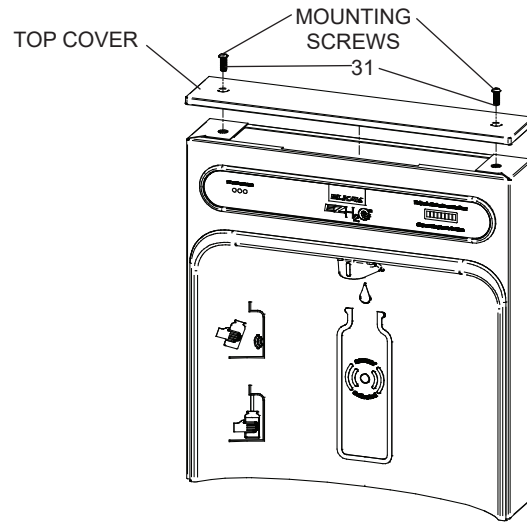
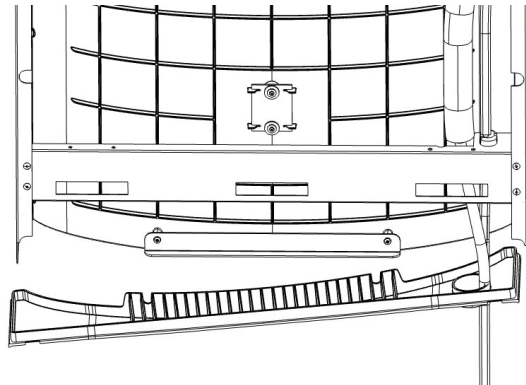

Fig. 9
Fig. 10
- 1) **Remove two (2) mounting screws** with 5/32" Allen wrench holding top cover to Bottle Filler (See Fig. 9). Remove top cover. Note do not discard mounting screws, they will be needed to reinstall top cover.
- 7) **Feed power cord & 3/8" water line** through hole in tower/basin gasket (See Fig 10).
- 8) **With the power cord, wire(s), and waterline** through hole on top of water cooler place Bottle Filler on the three (3) angled tabs protruding from the wall mounting plate installed on wall. Make sure round boss in gasket fits in hole of basin.
- 9) **Once Bottle Filler is installed** on wall plate tabs, make sure the water line, wire(s) and power cord are installed properly. Inspect for leaks and fix all leaks before continuing. Push the top of Bottle Filler toward wall and line up top cover two (2) holes.
- 10) **Reinstall Top Cover** on Bottle Filler (See Fig. 9) with two mounting screws from step 1 above. Caution, do not over tighten screws.